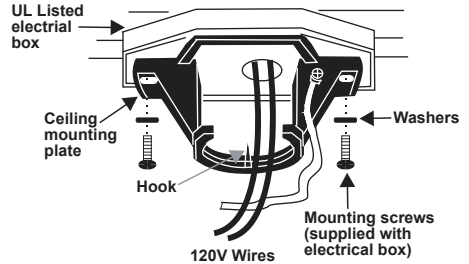

Fig.8
Step 1. Pass the 120-volt supply wires through the center hole in the ceiling hanger bracket as shown in (Fig.8)
2. Pass the 120-volt supply wires through the center hole in the ceiling hanger bracket as shown in(Fig. 8)
3. Secure the hanger bracket to the ceiling outlet box with the screws and washers provided with your outlet box.(Fig. 8)